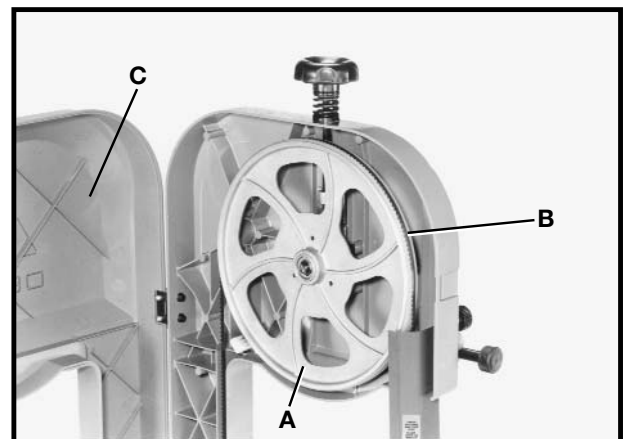

Fig. 20
2. Open the hinged door (C) Fig. 20.
3. Rotate upper wheel (A) Fig. 20, clockwise by hand and check to see if the blade (B) rides true on the approximate center of the two wheels.